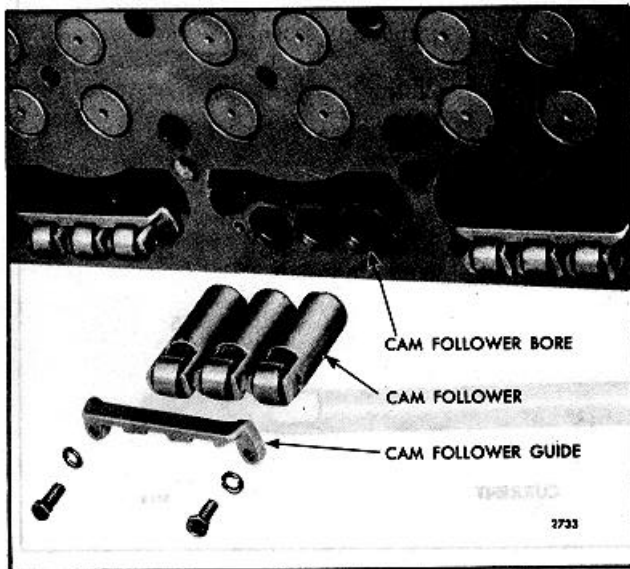

Fig. 4. Cam Followers and Guide
1. Rest the cylinder head on its side and remove the cam follower guide (Fig. 4).